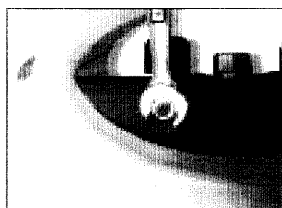

Figure 1
- Use a 5/8" socket or boxed end wrench to loosen the suction port as shown in Figure 1.